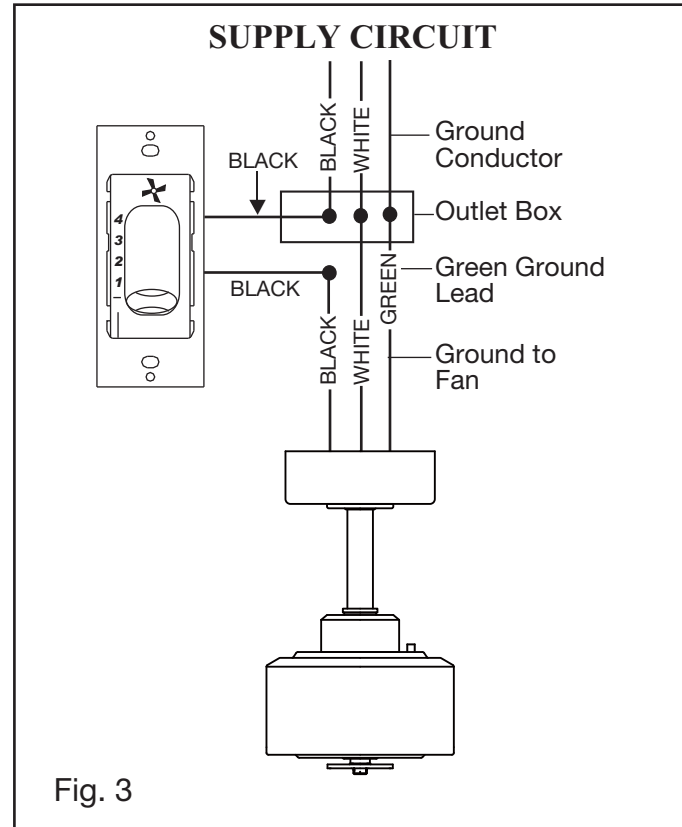

Fig. 3
- 6 Slip the yoke cover, trim ring and canopy onto the downrod. (Fig. 3)
- 8 Feed wires through holes in rubber ball moisture cap and slide cap down over top of ball. (Fig. 3)
**b. Connecting the wires from the wall switch to the wires from the wall outlet box.** (Fig. 3 & 4)
A DOWNWARD airflow creates a cooling effect as shown in Figure 3. This allows you to set your air conditioner on a warmer setting without affecting your comfort.